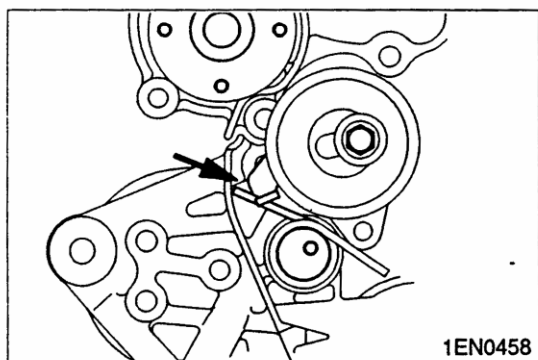

Fig.4-12
- b Fit one of the tensioner spring projections over the hooked portion of the timing belt tensioner and fit the tensioner onto the oil pump case, see Fig.4-12.